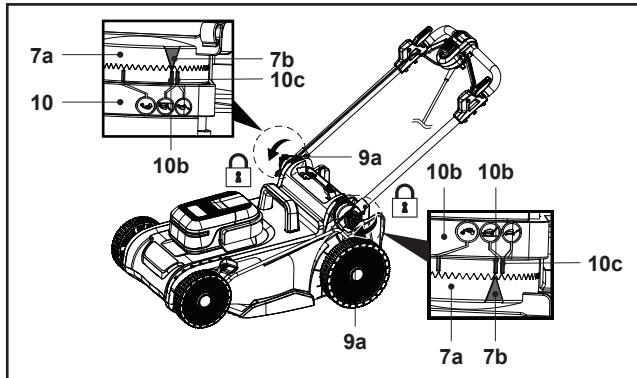

Fig. 2
4. Align the indicating triangle (7b) on dial plate (7a) with one of the handle height indicators (10b/10c) on handle support (10), then secure the handle assembly (5, 7) by tightening the locking knobs (9a) (Fig. 2).